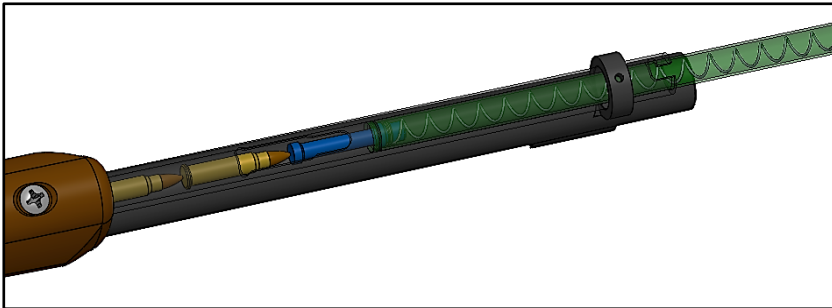

FIGURE 9
11. With the lever in the open position, insert cartridges into the tubular magazine, with the cartridge rim edge down. Load cartridges until the cartridges stack up to the magazine cutout – FIGURE 9. DO NOT EXCEED THE MAGAZINE CAPACITY.